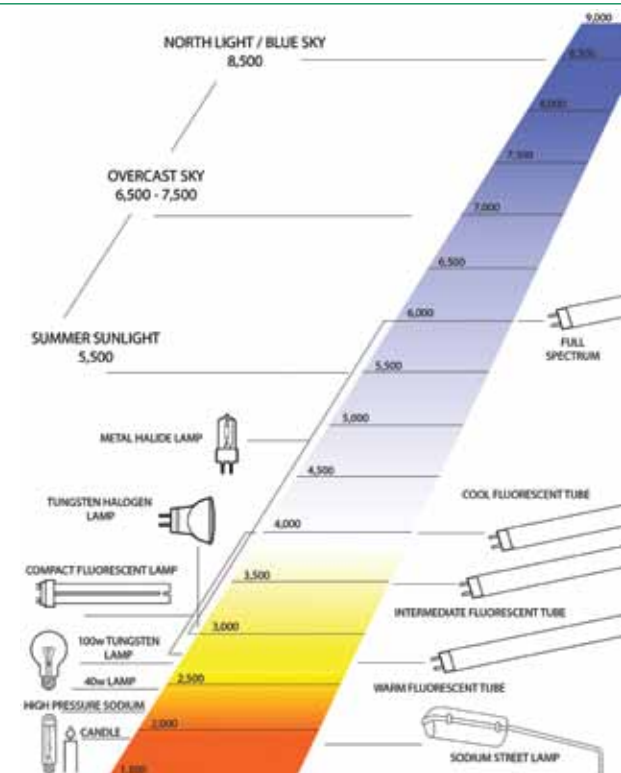

Fig.1. Colour temperature (K) of various light sources
- **Colour Appearance** - describes whether the light from the lamp looks 'warm' or 'cool'. This is measured on the Kelvin temperature scale, see Figure 1. In general a 'mid-white' (3,500 K) or 'cool' (4,000 K+) colour appearance light source provides an appropriate visual perception and contrast for factories, warehouses and storage areas.